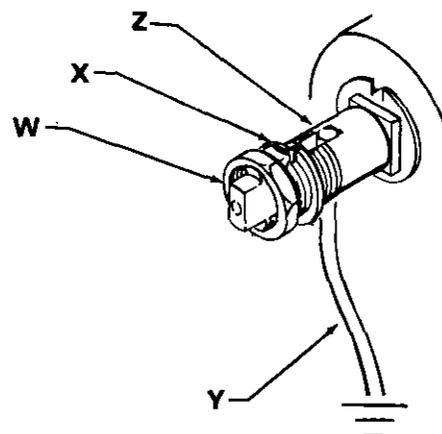

Fig 1
1. *Pump*: use a ground wire and clamp as shown in Fig 1.
To ground the pump, loosen the grounding lug locknut (W) and washer (X). Insert one end of a 12 ga (1.5 mm2) minimum ground wire (Y) into the slot in lug (Z) and tighten locknut securely. See Fig 1. Connect the other end of the wire to a true earth ground. Refer to page 12 to order a ground wire and clamp.